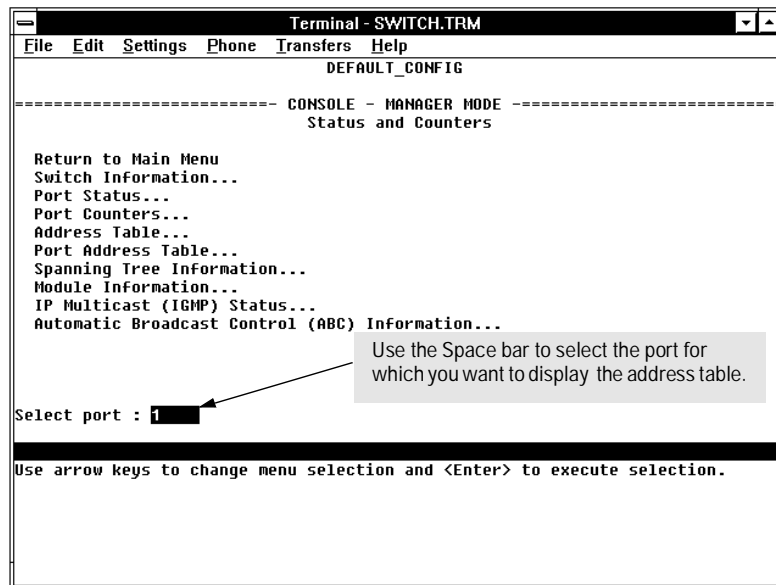

Figure 4-7. Example of How To Access the Port Address Table
2. When the `Select Port` prompt appears, press the Space bar to display the port you want to examine, then press `[Enter]`. (See figure 4-7, above.)